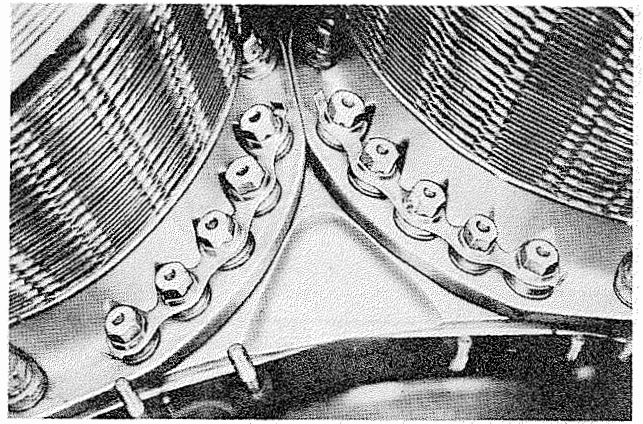

Figure 7-76. Lock Plates Secured to Cylinder Hold-Down Cap Screws
c. Secure the lock plate by dimpling the rim of the lock plate into the hole in the head of the center cap screw. See figure 7-76.